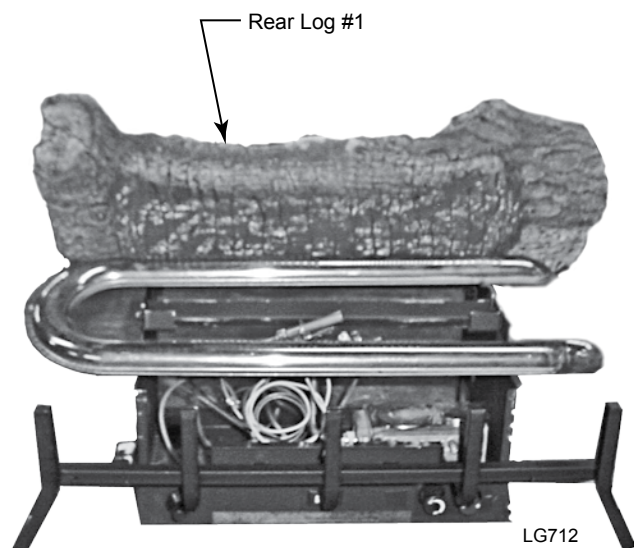

Figure 23 - Place Rear Log
1. Place Rear Log (#1) on rear support. *Figure 23*